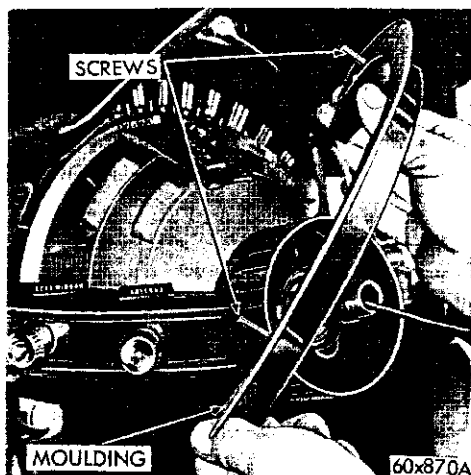

Fig. 118—Removing the Instrument Cluster Dome Moulding
- (4) Disconnect all the wires at the terminals before loosening the cluster attaching screw. Disconnect the instrument ground wire.
- (5) Remove the screws which attach the instrument cluster bezel to the instrument panel. Remove the bezel (Fig. 118). Disconnect the speedometer cable.
- (6) Loosen the two screws (one on each side of the steering jacket tube) and remove the steering
(7) Connect all the wires disconnected at the time of removal (including ground).
(8) Install the instrument dome molding (Fig. 118). Connect the speedometer cable.